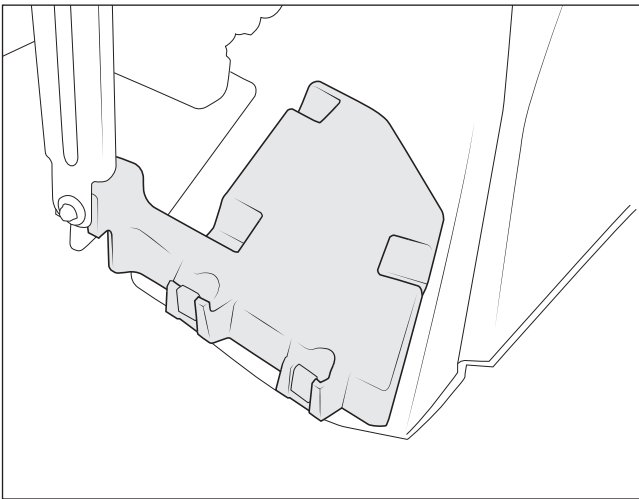

Figure 4
7. Remove the lower fascia brackets (fig. 4).